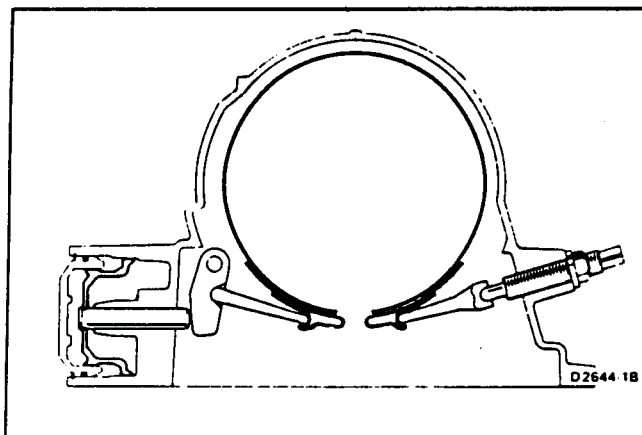

FIG. 20 Intermediate Brake Band and Servo Piston
1. Loosen the locknut, back out the adjustment screw and remove the struts (Fig. 20).